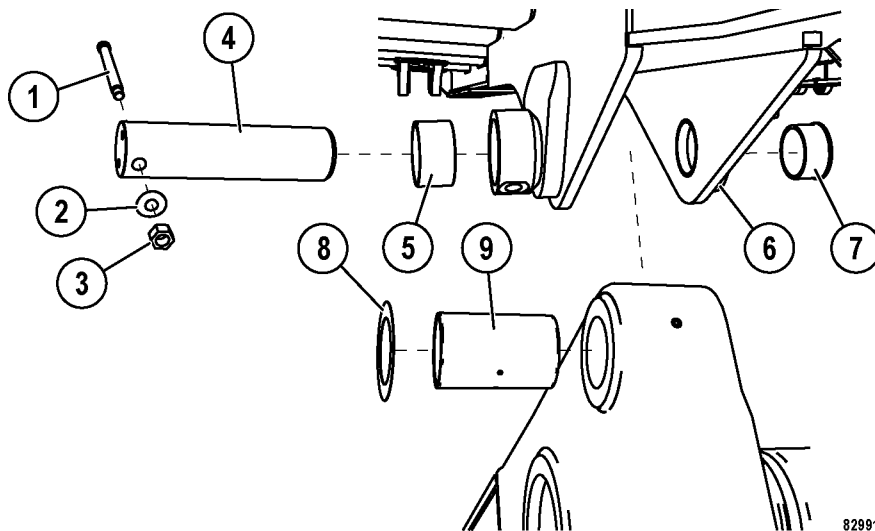

FIGURE 3-3. DUMP BODY PIVOT PIN
5. Remove self-locking nut (3, Figure 3-3), flat washer (2) and shoulder bolt (1) from both body pivots.
7. Remove body pivot pin (4) far enough to allow shims (8) to drop out. Complete removal of pins is not necessary unless new pins are being installed.
2. Install shims (8, Figure 3-3) in both body pivots, as required, to fill the outside gaps and center the body on the frame pivot.